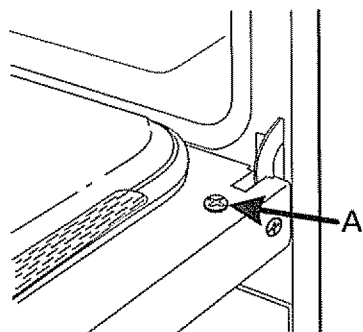

Figure 1
2. Remove screws located on the inside of the oven door near the hinges **A** (one on each side) (also see Figure 1).